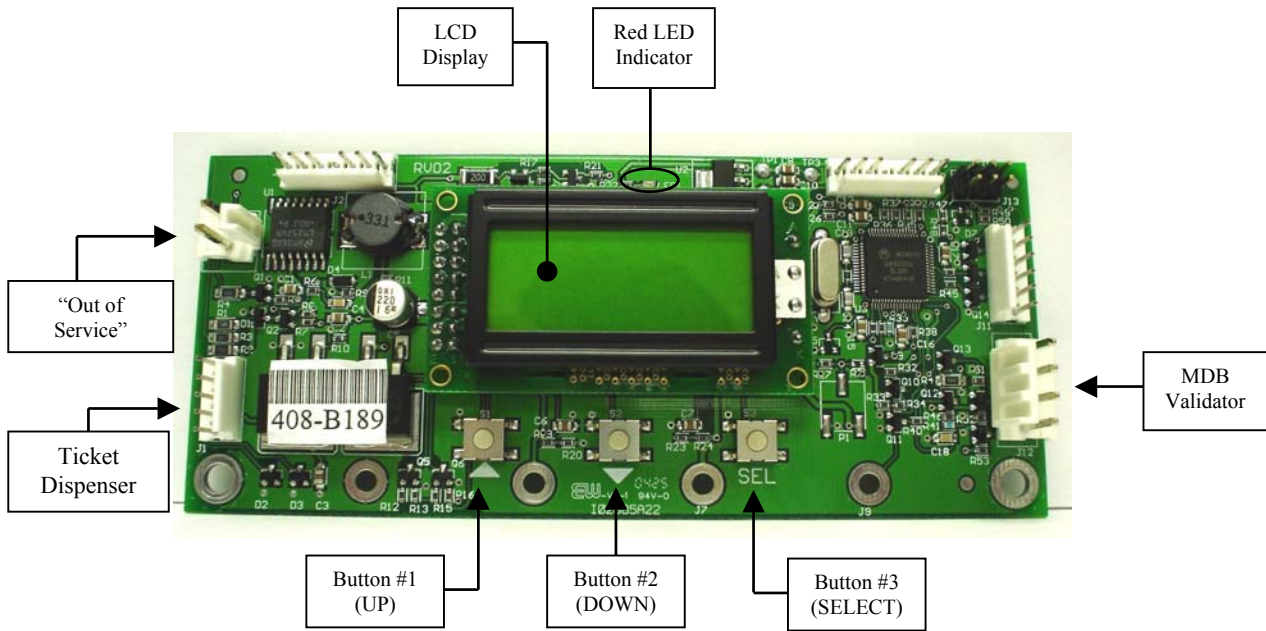

Fig. 2: AC111/115/125 Series Main Logic Board (MLB)
5. Locate the UP button on the Main Logic Board (see figure 2). Press and hold the UP button for approximately 3 seconds until the Ticket Dispenser's motor begins to run, and then release the button; this initiates the ticket Auto-Feed feature on the Main Logic Board. During the Auto-Feed procedure, the tickets are pulled through the dispenser's ticket path, and automatically fed to their appropriate "standby" position, which is flush with the front of the machine. *Note: One or more tickets may be fed through the slot during the Auto-Feed operation; these may be torn off and discarded.*
Power-ON the changer, and allow it to run through its start-up procedure, which may take up to thirty seconds or more, before attempting to dispense any tickets. During this time, you may hear the validator motors cycling as the Main Logic Board (MLB) checks them; this is normal. Once all motion has ceased, and all indicator lights are showing a "Ready" condition, the Ticket Dispenser is in its Standby state, ready to accept bills. In this state, the MLB display's backlight will be ON continuously, and the screen will show the current count of total dollars accepted by the machine (00000). Additionally, the board's red LED will blink a heartbeat every second to indicate that the unit is getting power and functioning normally (see Fig. 2).
The AC111/115/125 Series Ticket Dispenser's default operational settings are easily reprogrammed to meet your requirements. Programming is done using the three buttons and LCD display located on the Main Logic Board as an interface (see Fig. 2).